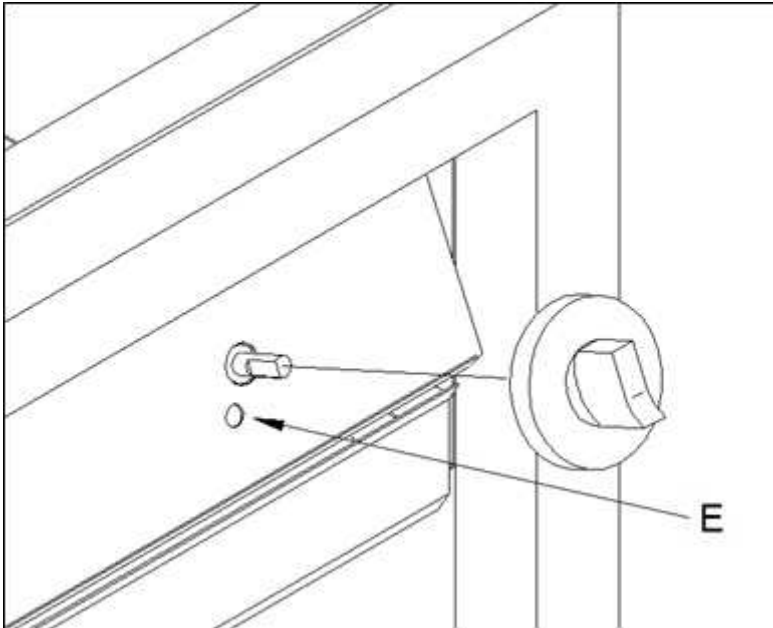

FIG.5
4.2 REGULATION DU DEBIT REDUIT (fig. 5)